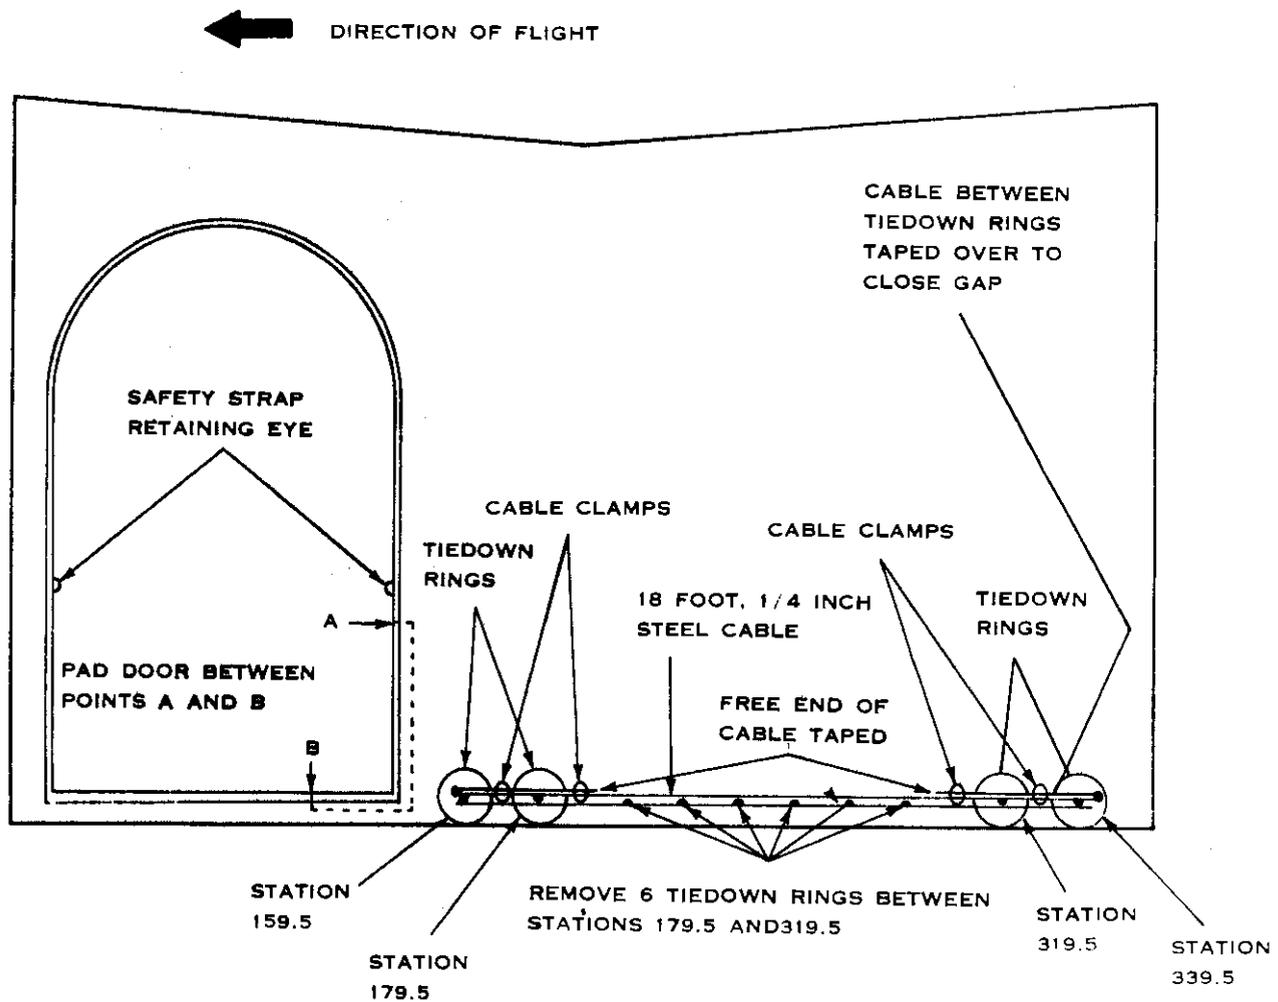

Figure 93. CH-21 anchor line cable installation.
(2) Remove forward door and door assembly.
(3) Remove the forward three-man seat section on the starboard side.
(4) Remove tiedown rings between stations 179.5 and 319.5 on the starboard side.
(5) Install anchor line cable assembly on the starboard side (fig. 93).